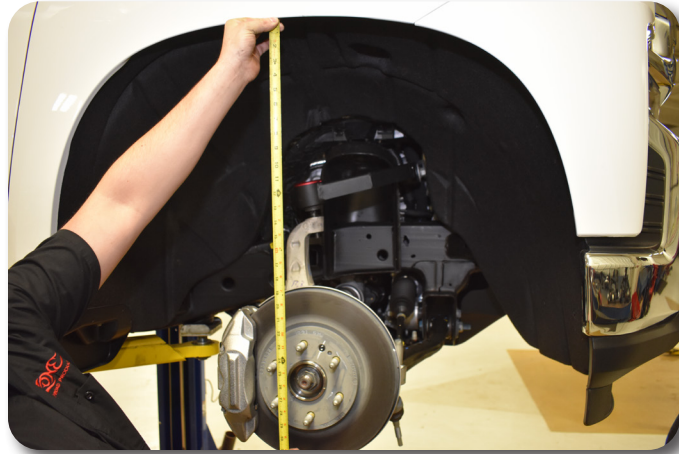

Figure 39A
57. Using a jack, set the ride height from the fender lip to the center of the hub at 28-1/2" (6" regular or 4" Trail BOSS/ AT4 Kits) or 26-1/2" for 4" regular truck (Non-TB/AT4). **Using a torque wrench on the inside of the strut bucket and a wrench on the outside bushing to prevent the nut / bushing from moving,** tighten the control arm hardware to **126 ft-lbs**. This will ensure the rubber bushings are tightened to the right position and not put preload in the rubber bushings. **DO NOT** spin the "bushing side" hardware when tightening, only tighten from the inside "frame side". Fig. 39A & 39B